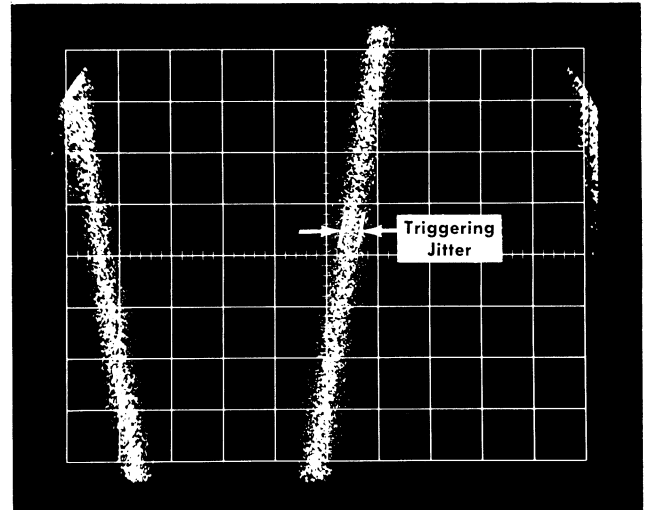

Fig. 5-42. Typical crt display for checking UHF Sync triggering jitter. Measure only effective horizontal thickness, not maximum random excursions.
j. **Check** the display for time jitter. This should not exceed 30 psec (see Fig. 5-42).
- y. **Check** the display for time jitter. This should not exceed 30 psec (see Fig. 5-42).